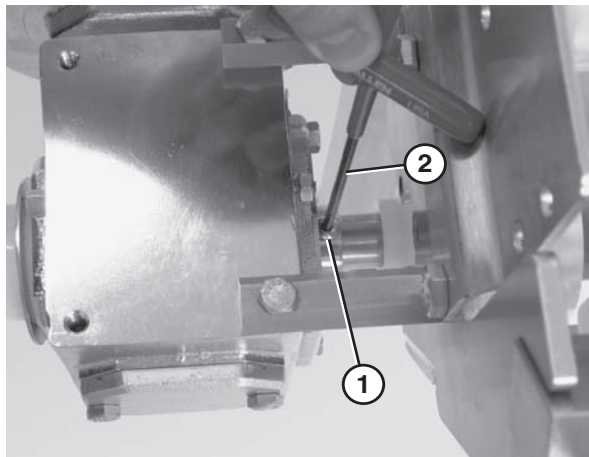

Figure 66
1. Loosen the fasteners (**Figure 66, item 1**) that connect the gearmotor to the drive spindle using a hex wrench (**Figure 66, item 2**).